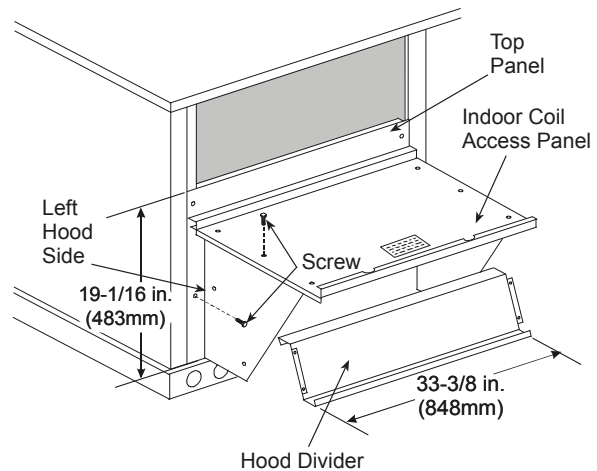

Fig. 13 — Economizer Hood Construction
2. Swing out indoor coil access panel and insert the hood sides under the panel (hood top). Use the screws provided to attach the hood sides to the hood top. Use screws provided to attach the hood sides to the unit. See Fig. 13.
4. Insert the hood divider between the hood sides. See Fig. 13 and 14. Secure hood divider with 2 screws on each hood side. The hood divider is also used as the bottom filter rack for the aluminum filter.